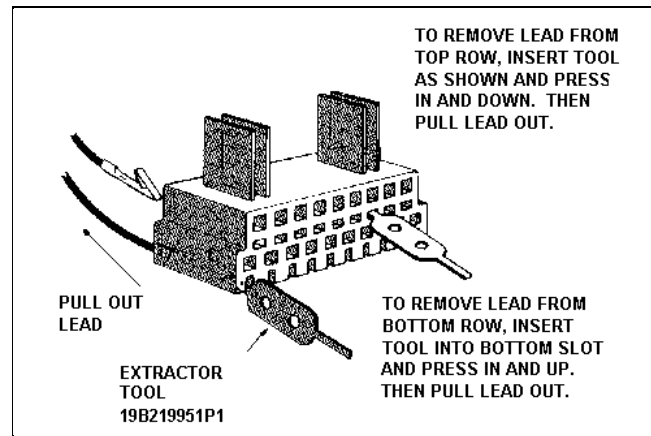

FIGURE 9 - USING EXTRACTION TOOL
3. Tape the plug(s) and retaining hook. If it is necessary to disassemble the 19-pin plug(s) to run the cable, use the extractor tool as shown in Figure 9. Mark the plugs for identification and write down the wire colors and hole numbers as the wires are removed from the plug(s).